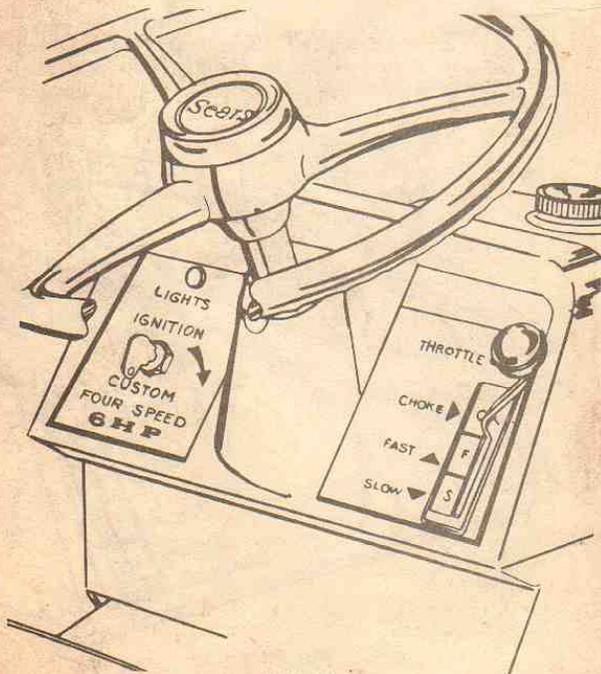

FIG. 10
3. Grasp recoil starter handle and pull sharply. Refer to Fig. 10. Do NOT allow starter rope to snap back. Rewind slowly keeping hold of the starter handle at all times.